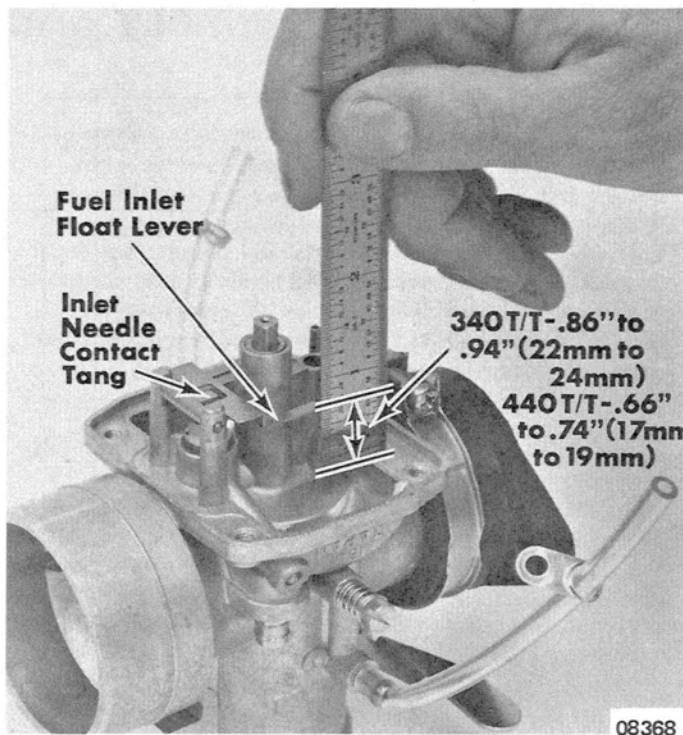

Figure 7. Float Lever Adjustment
7. Install float lever and secure in place with float lever pin. Check float lever adjustment, as shown in Figure 7, and adjust as necessary. Float lever settings, when properly adjusted, should be:
Settings are measured from gasket surface of carburetor bowl (with gaskets removed) to top edge of float lever with inlet needle closed. (Figure 7)